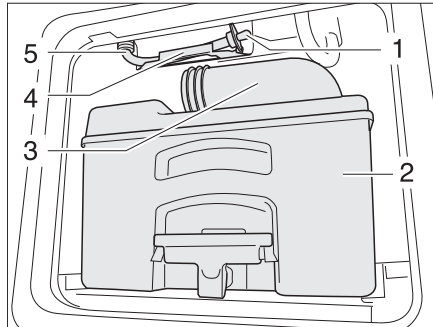

Fig. 307 Toilet water tank drain hose
- Empty the cassette (Fig. 307,2) at a disposal station authorized for this purpose and clean it.
- Leave the drainage neck (Fig. 307,3) open.
- Remove the drain hose (Fig. 307,5) from the holder (Fig. 307,4).
- Remove the drain plug (Fig. 307,1) and let the residual water run out.